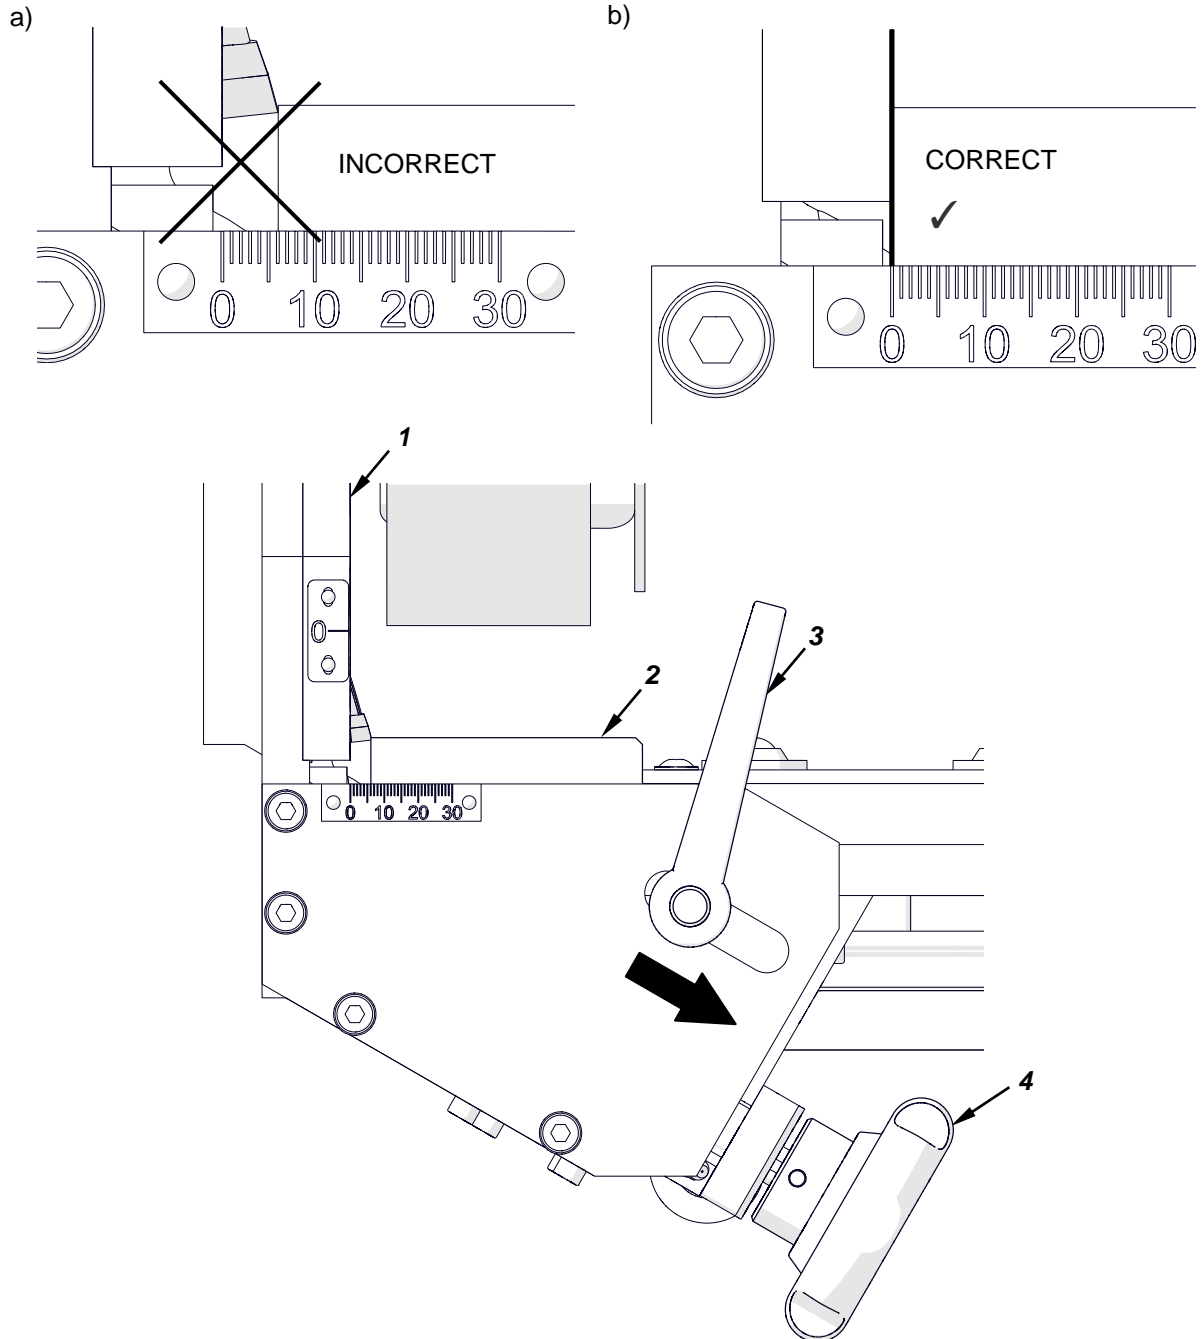
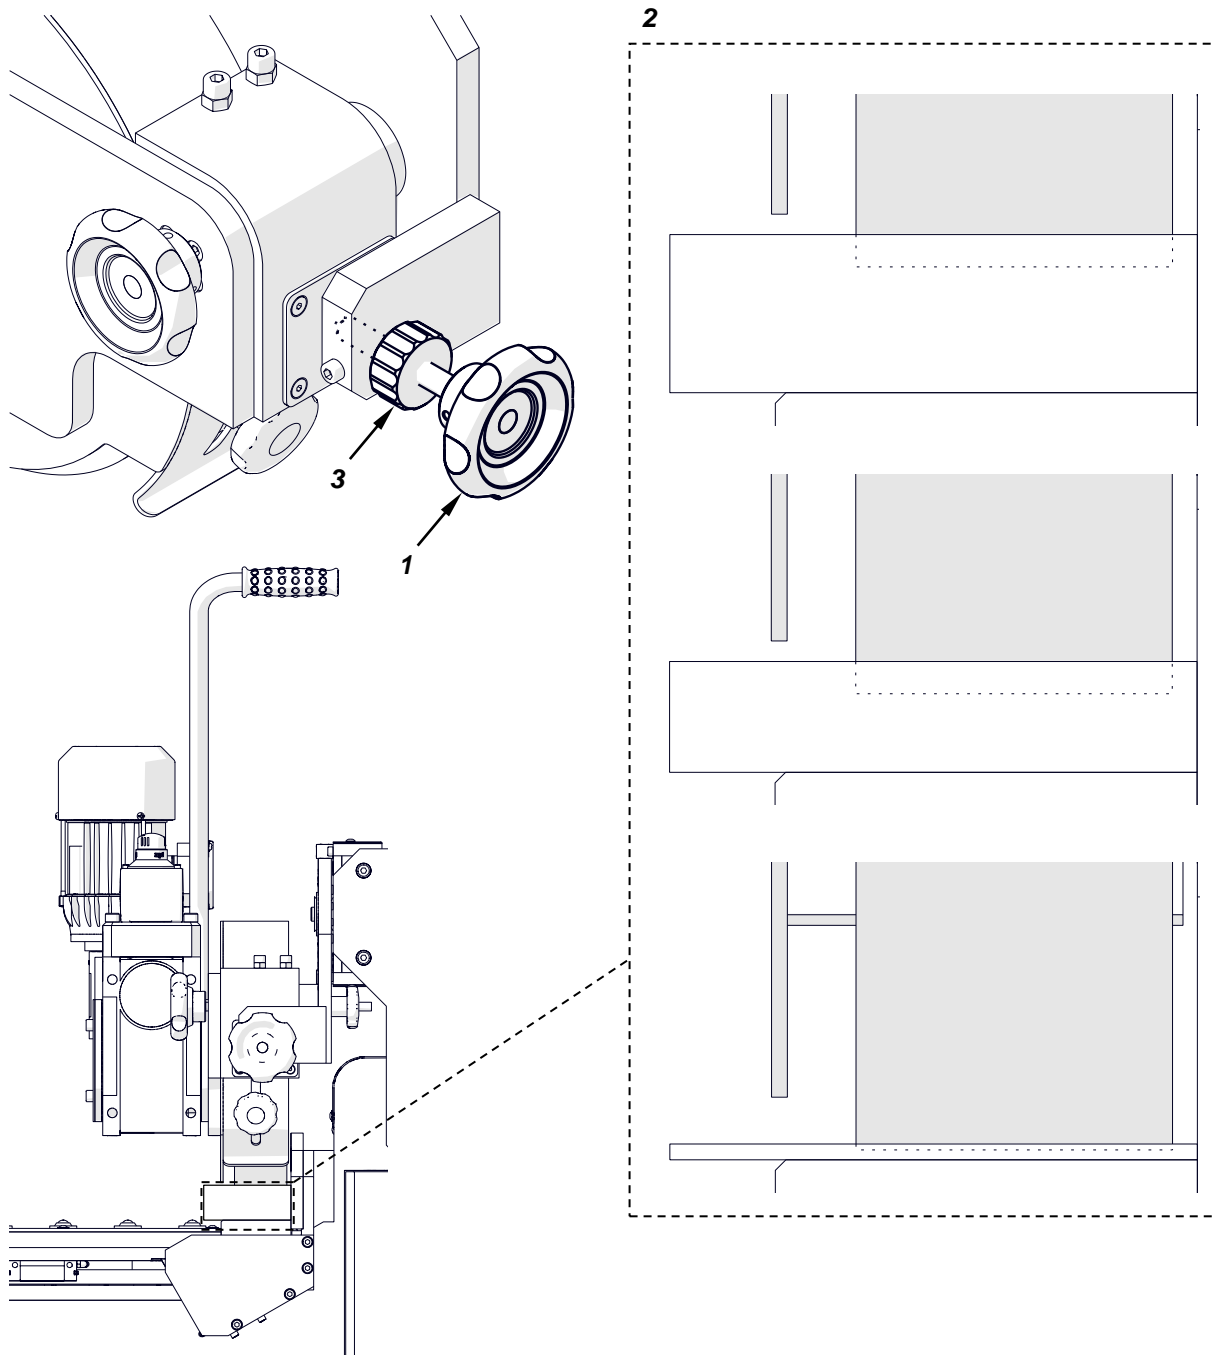
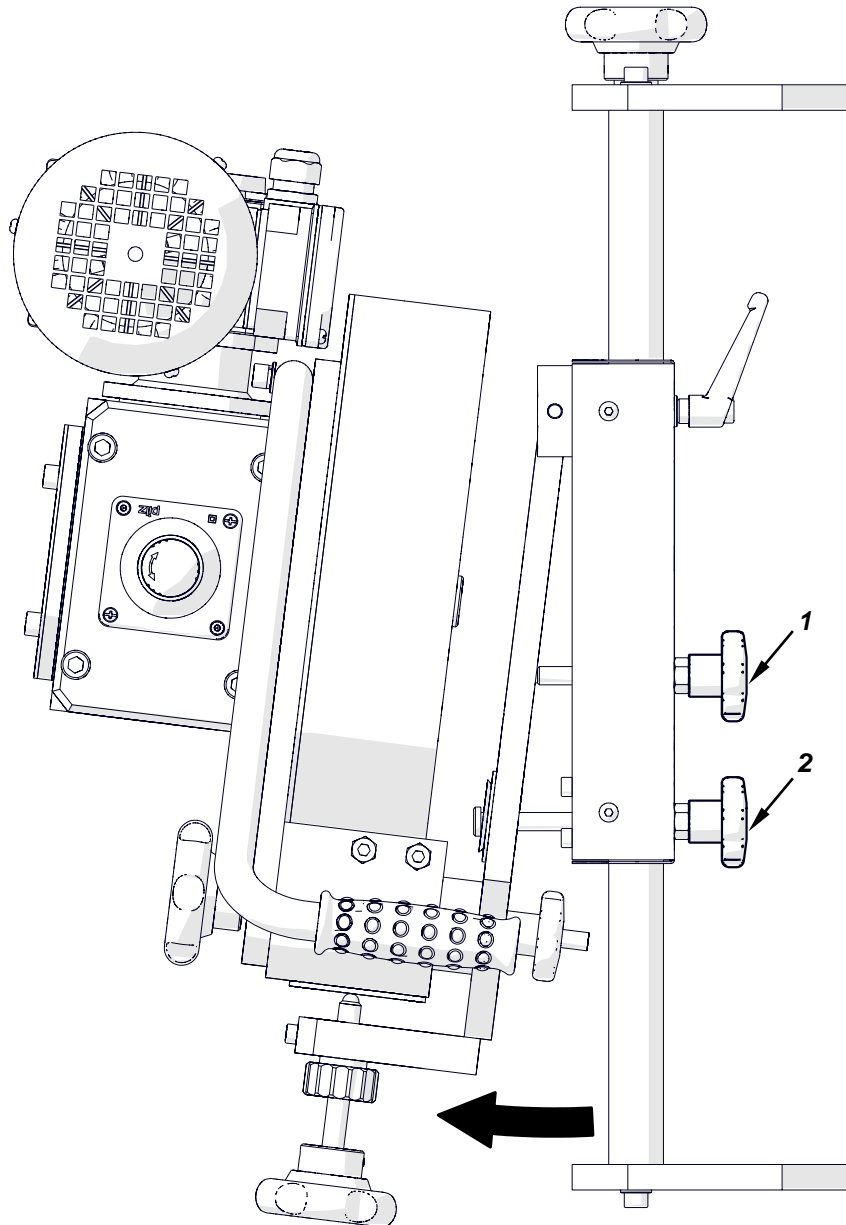
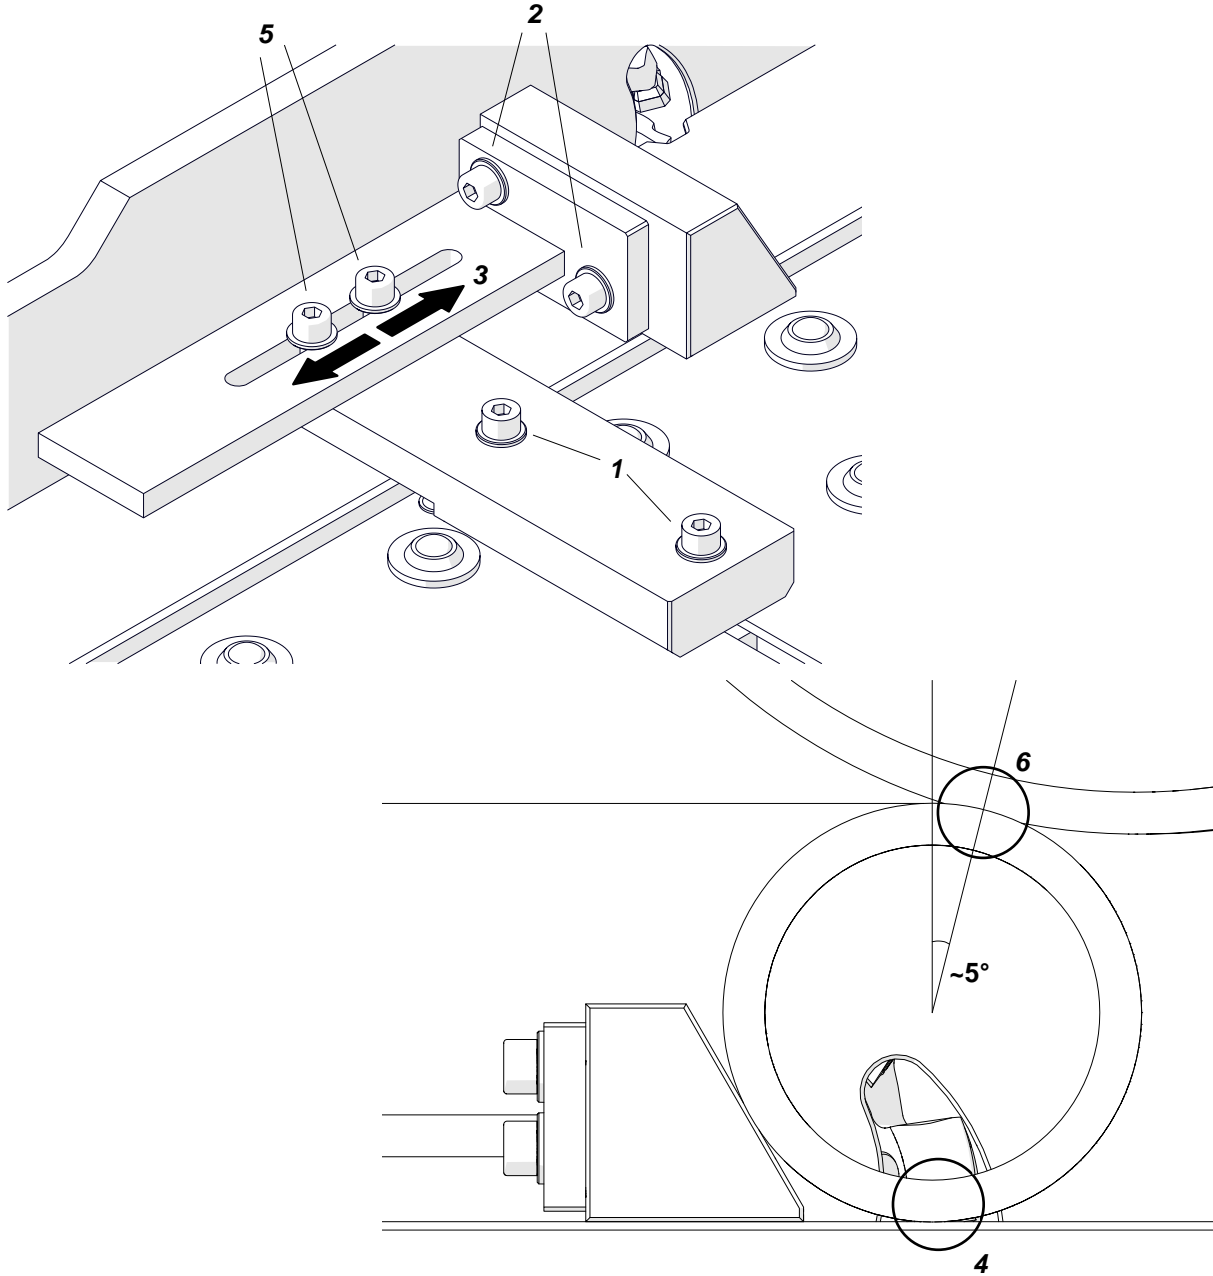

Fig. 6. Setting the milling head penetration to zero: incorrect (a), correct (b)
Fig. 9. Setting the feed wheel height
Fig. 10. Tilting the feed unit
Fig. 16. Adjusting the attachment
Use the knob (1, Fig. 9) to set the feed wheel at such a height so that the workpiece is firmly pressed to the horizontal base (2) during rotation of the feed wheel. Then, use the nut (3) to lock the knob in this position.
To ensure that the workpiece is sufficiently pressed to the vertical base, use the knobs (1, 2, Fig. 10) to tilt the feed unit. Do this when milling narrow workpieces or after moving the vertical base away from the horizontal base.
Make sure that the attachment is in contact with the vertical base and horizontal base. Then, use the 6 mm hex wrench to tighten the screws (1, 2, Fig. 16). Next, adjust the attachment so that (3) the bottom of the pipe is as close to the milling spot as possible (4) and tighten the screws (5).
Set the required bevel angle and milling head penetration (Fig. 6, 7, 8), and tilt the feed unit by about 2° (Fig. 10). Next, set the height feed wheel height and adjust the wheel (Fig. 9, 11) so that the pipe is pressed to the attachment and horizontal base when the feed wheel rotates (6, Fig. 16).